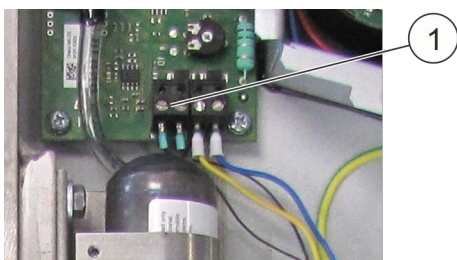

Fig. 88: Connection loss monitoring
- 13.** ▶ Loosen the electrical connection (Fig. 88 /1) of the loss monitoring.